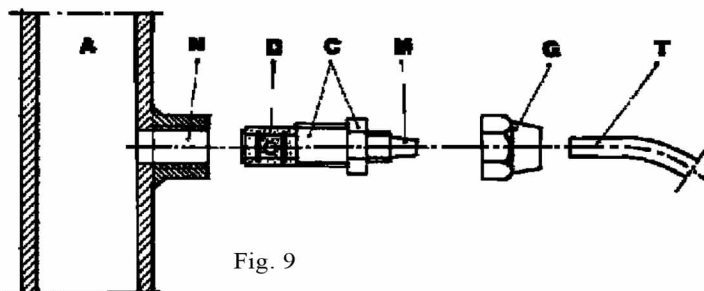

Fig. 9
- g. - Select the most appropriate injection point on a pipe of the plant to be treated and there fit a 3/8" female steel gas thread connector (similar to BSPm). This connector is not supplied with the pump. Screw the injection valve to the gas connector, inserting a gasket as shown in Fig. 9. Then connect the discharge hose to the conical connector on the injection valve and fix it with the supplied tube nut G. The injection valve also acts as no return valve by means of a cylinder sleeve (elastomer, standard supplied in Viton).
#### DIAGRAM (Fig. 9)